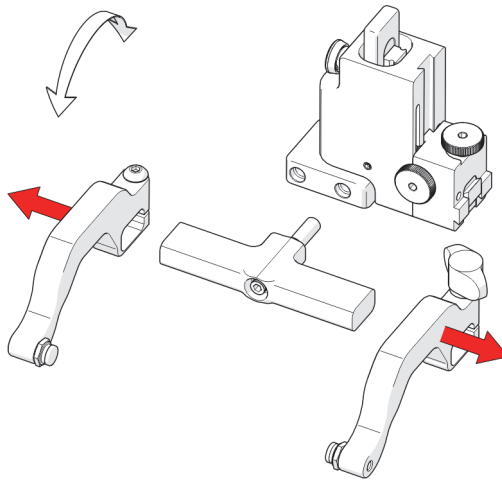

Figure 2-112 Remove probe holder arms
3. Loosen the arm clamp screw and the probe holder arm adjustment knob, allowing removal of the probe holder arms (see Figure 2-112 on page 119).